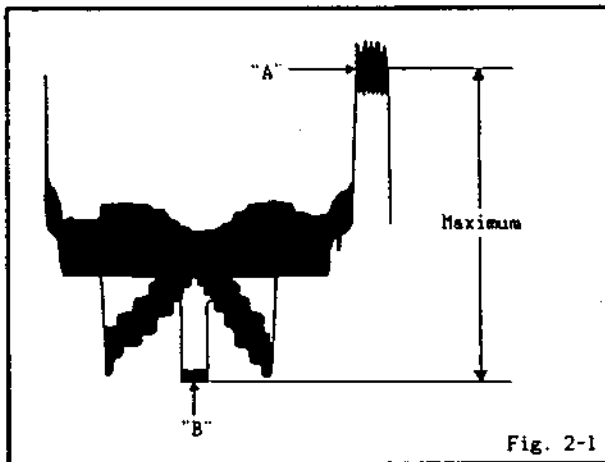

Fig. 2-1
3. Adjust VR7019 so that the level (from "A" to "B" on the Fig. 2-1) is at maximum.